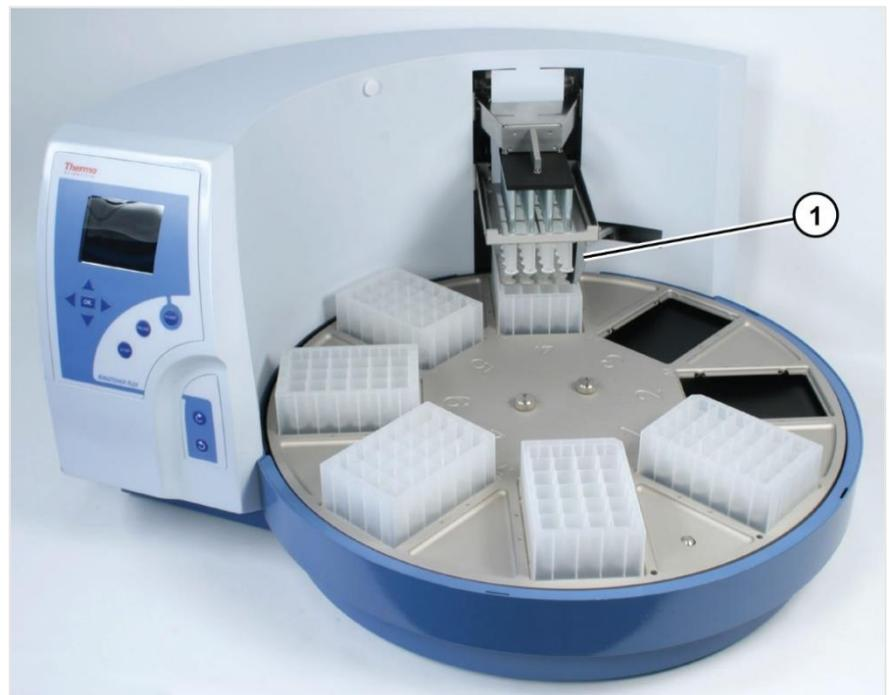

Figure 45. Shield plate in function
5. When the turntable moves, the shield plate moves over the plate situated underneath (Figure 45) forming a protective cover.